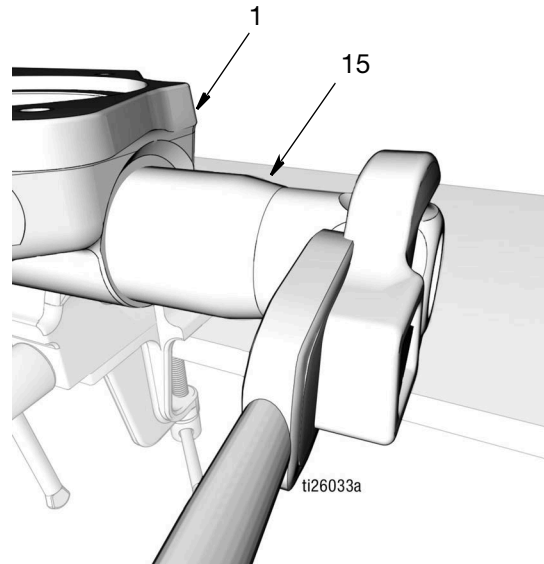

FIG. 45
- c. Thread the outlet check valve (15) into the pump base (1) (FIG. 45). Tighten securely. Then torque to 50 to 55 ft. lbs (67.8 to 74.5 N•m).